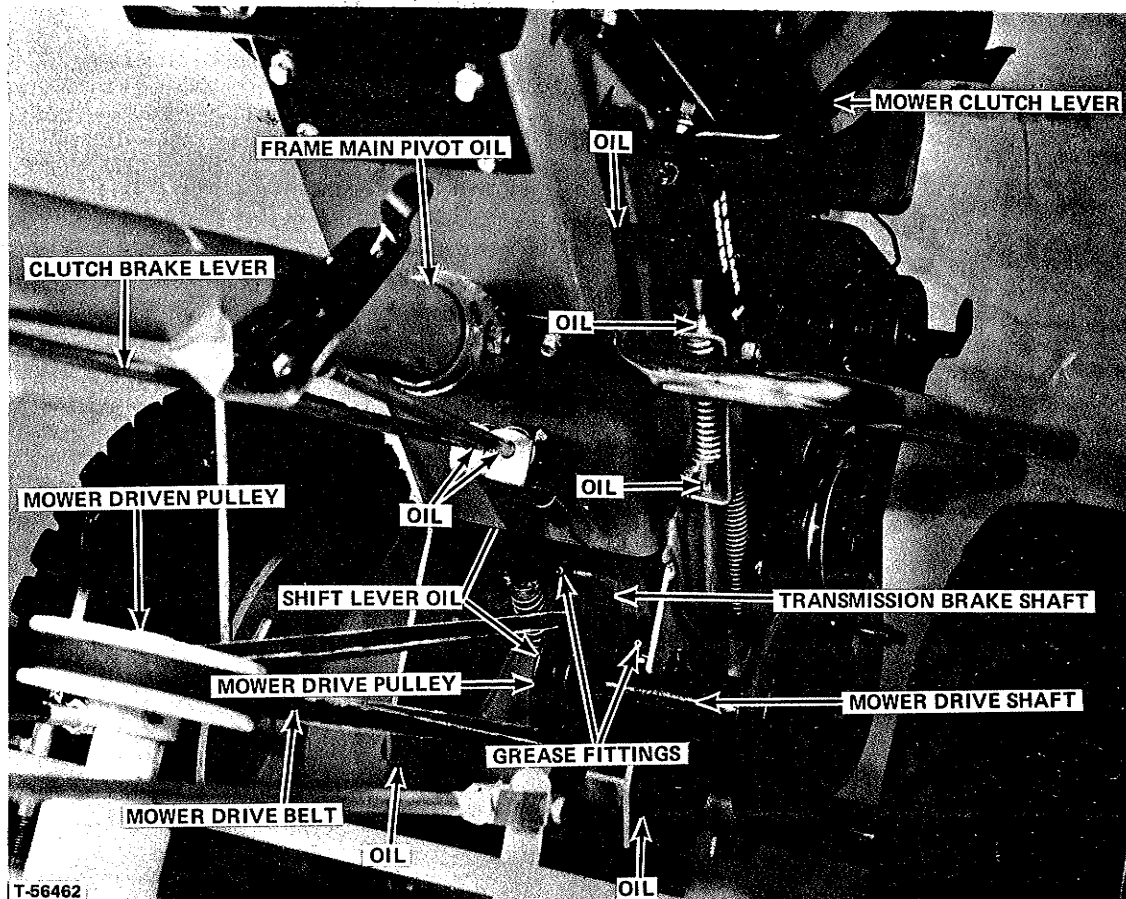

FIGURE 18 - Belt Shield Removed
3. See Figure 18. With mower drive clutch disengaged, pull the mower drive shaft and pulley assembly forward to loosen mower drive belt. Remove drive belt from mower drive pulley.
2. See Figure 18. Place mower drive belt over mower driven pulley, pull mower drive shaft and pulley assembly forward and install belt over mower drive pulley.
See Figure 18. It is essential that the mower belt be installed correctly. Note that the belt must run from the TOP of the power take-off pulley to the RIGHT side of the mower pulley and from the LEFT side of the mower pulley to the BOTTOM of the power take-off pulley.